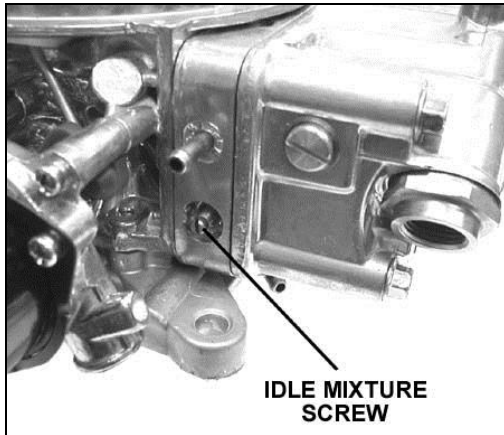

Figure 9
2. Adjust each idle mixture screw (Figures 9 & 10) 1/8 turn at a time, alternating between each screw. Turn them equally, until you achieve the highest possible vacuum reading without adjusting the curb idle speed screw. Turn screws in to decrease the idle fuel mixture. Turn them out to increase the idle fuel mixture.